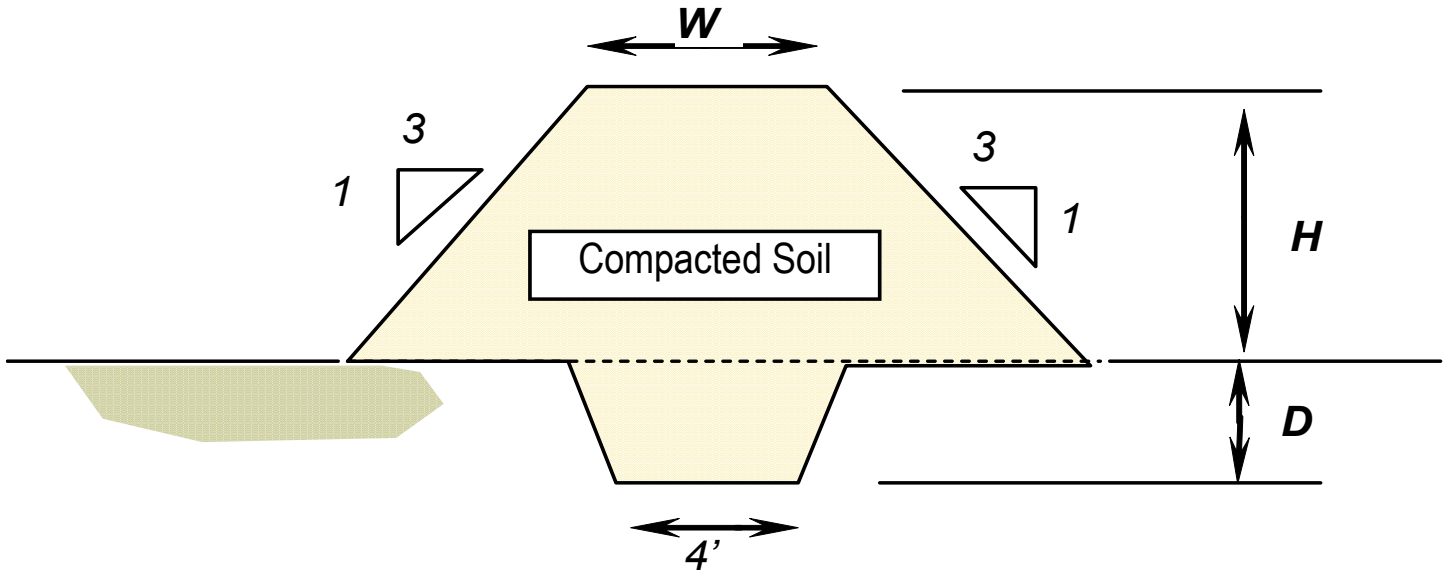

FIGURE 1 - Typical dike cross section
***Cross Section:*** The dike cross section will be trapezoidal, and shall accommodate the equipment to be used for constructing it. (see Figure 1) The dike must have stable side slopes, generally not be steeper than 3:1. The dike top width, base width and core trench dimensions are selected based on the design height, as shown in Table 1.